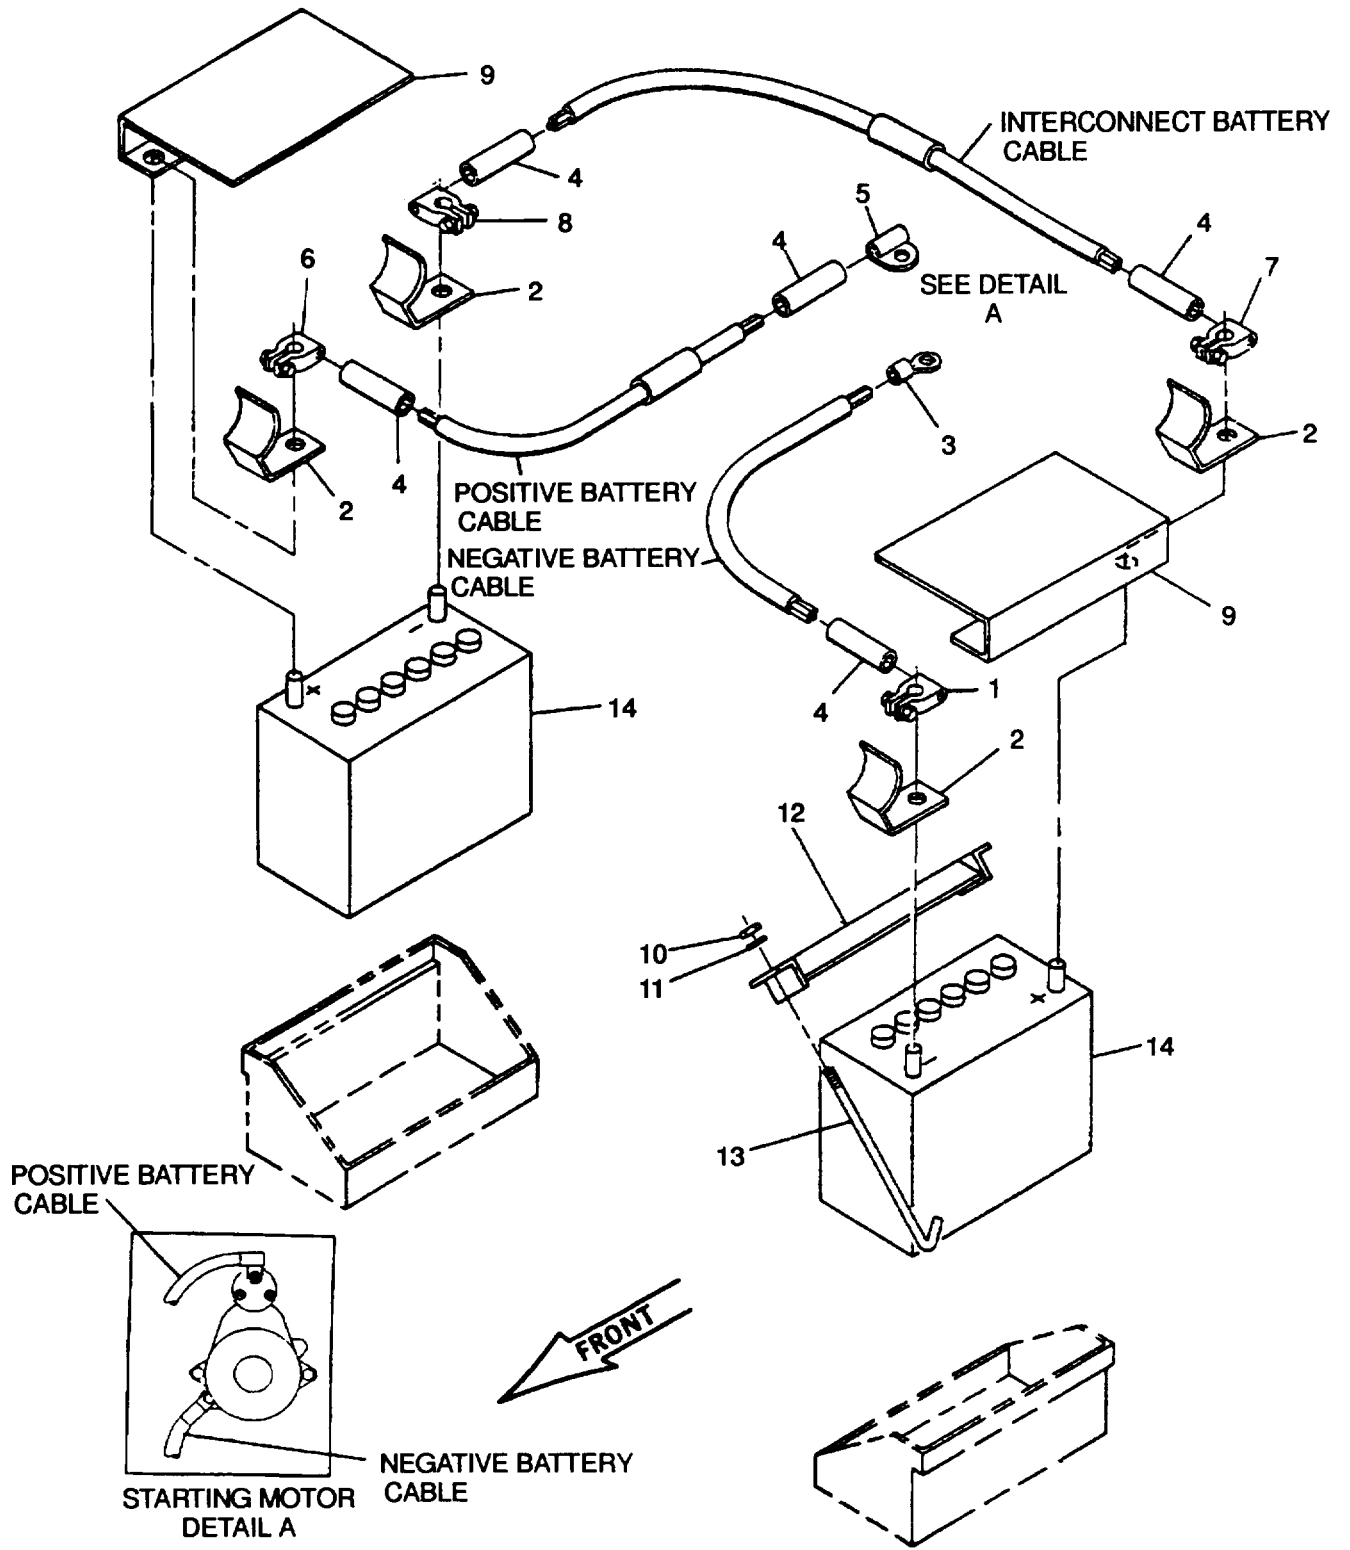

Figure 2-3. Batteries and Cables
- c. Disconnect negative battery cable terminal (1, Figure 2-3) from battery.
- d. Disconnect and remove applicable cable assembly as shown in Figure 2-3 or Figure 2-4
- a. Remove terminal cover(s) (2, Figure 2-3) from battery post(s), if applicable.
- c. Install terminal cover(s) (2), if removed.
- a. Remove applicable broken or damaged terminal as shown in Figure 2-3 or Figure 2-4.
- b. Slide new shrinkable tubing (4, Figure 2-3 or Figure 2-4) over cable end.
- d. Heat shrinkable tubing (4) with heat gun until secure.
- a. Install applicable cable assembly as shown in Figure 2-3 or Figure 2-4.
- b. Connect negative battery cable terminal (1, Figure 2-3) to battery.
- b. Open engine access doors and disconnect negative battery cable terminal. (1, Figure 2-3).
- c. Disconnect negative battery cable terminal (1, Figure 2-3).
- d. Disconnect positive cable terminal (6).
- e. Disconnect interconnect cable terminals (7) and (8) and remove interconnect battery cable.
- f. Remove terminal covers (2) and battery covers (9).
- g. Remove nuts (10), washers (11), retaining bars (12), and retaining clamps (13).
- h. Remove batteries (14).
- c. Remove terminal covers (2, Figure 2-3) and battery covers (9).
- e. Install terminal covers (2) and battery covers (9).
- a. Install batteries (14, Figure 2-3). Ensure that batteries are fully charged.
- b. install battery covers (9) and terminal covers (2).
- c. Apply grease (Item 8, Appendix C) to battery posts and cable terminals (1), (6), (7), and (8).
- d. Install battery retaining bars (12), clamps (13), washers (11), and nuts (10) (both sides).